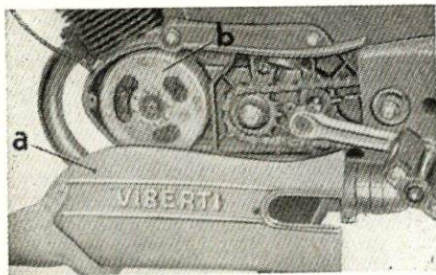
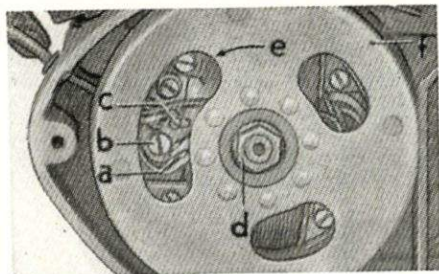
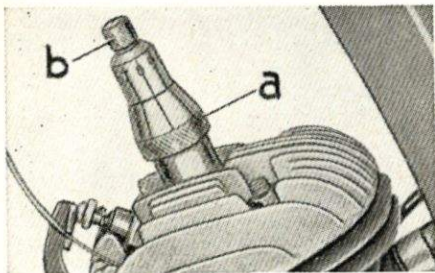

Fig 18
Fig. 19
Fig. 20
Clean the contact points of the switch every 3000 km and check them for proper gap, as traces of burning are likely to appear on contacts a, fig. 19, such as to cause current deviations. Should the contact surfaces be not perfectly flat, no trouble will arise for the operation of the magneto flywheel, but with protracted use in such condition trouble may be the result.
To clean and check the gap of the contacts, remove cover a, fig. 18, and rotate flywheel b, fig. 18, until the contacts may be seen through the slots of the flywheel (see fig. 19).
If the gap needs adjusting, loosen the fastening screw b, fig. 19, and turn one way of the other adjusting screw c, fig. 19. While cleaning operations are being performed, smear the pad of the switch cam with grease to get it soaked.
- 2) Remove hexagon nut d, fig. 19, remove flywheel f, fig. 19, from its conical seat by means of the special puller, then screw on again the nut so as to use it for turning the engine flywheel in the following work operation.
- 3) Unscrew the spark plug and screw on the timing and check micrometric adjusting nut a, fig. 20, then unscrew micrometric screw b, fig. 20.
- 4) Bring the piston to its T.D.C. by turning the flywheel to the direction shown by arrow e, fig. 19, and screwing down micrometric screw b, fig. 20.
- 5) Slightly turn the flywheel to the direction opposite to arrow e, fig. 19.
Screw down micrometric screw b, fig. 20 by about 2.2 mm. Each movement of the micrometric screw corresponds to a 0.1 mm displacement; one complete turn, to 1 mm; 2.2 turns are therefore necessary.
- 6) Turn the magneto flywheel to the direction shown by arrow e, fig. 19, until the piston rests against the micrometric screw. Then rotate for a few further turns until the opening contacts a, fig. 19 come to view through the slots of the magneto flywheel.
- 7) When this position of the piston and of the contact points is reached, lock fastening nut d, fig. 19 by which also the magneto flywheel is locked.